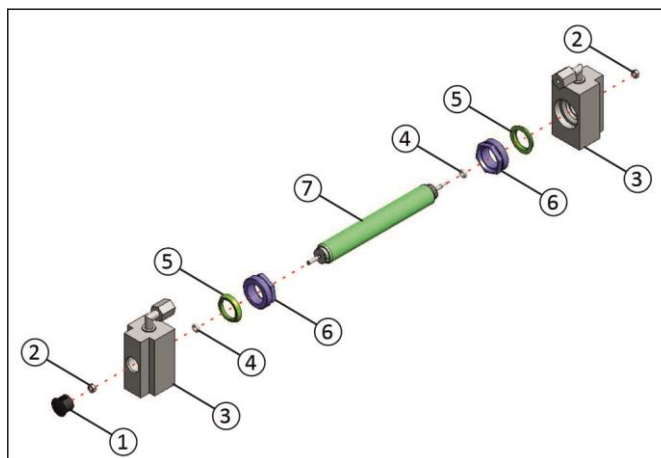

Figure 140 – Disassemble Glass Tube
8. Remove the plug (refer to Figure 140, callout - 1) and dismantle the nut (refer to Figure 140, callout - 2) from both the end.
9. Disassemble glass tube (refer to Figure 140, callout - 7).